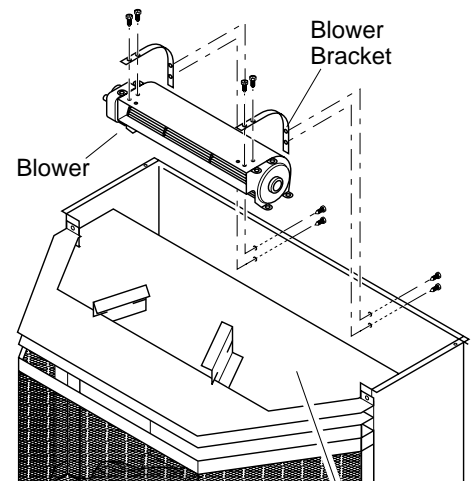

Figure 15 - Removing Blower Brackets from Stove and Attaching to Blower
6. Remove the two blower mounting brackets from the rear panel by removing two screws each (see Figure 15).
7. Attach the two mounting brackets to blower housing using four screws provided in blower kit (2 for each bracket) (see Figure 15). Tighten screws securely. Place blower assembly temporarily on top of firebox.
12. Using the four screws previously removed, mount blower assembly to stove by reattaching blower brackets to rear panel (see Figure 15). Tighten